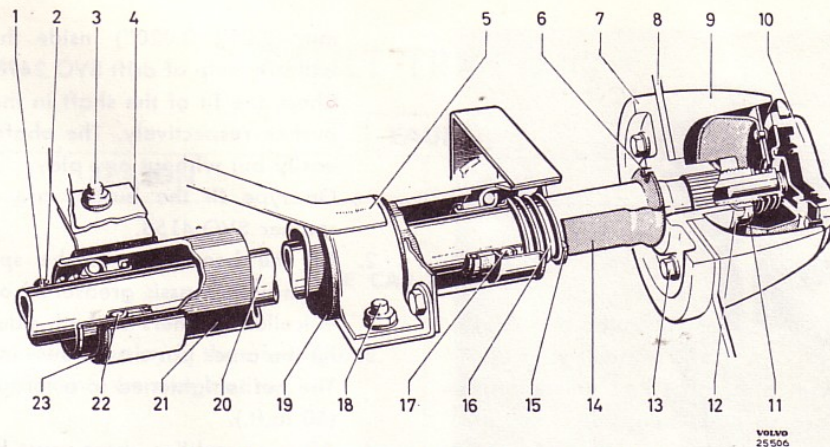

Fig. 43. Steering column mounting, P 1800.
- Unscrew the bolts (3, Fig. 43) for the lower attachment and the bolt (18) for the upper attachment. Pull up the jacket tube (21) slightly and remove the direction indicator switch and control lever, see Part 3. Then pull off the jacket tube from the steering column (20).
- Check that the rubber bushes (19 and 23) for the jacket tube attachment are undamaged and that the circlip (1) is located in its groove. Then fit the jacket tube and other parts in the reverse order to removing and as shown in Fig. 43. Tighten the steering wheel nut to a torque of 3.5–5.0 kgm (25–35 lb.ft.) and do not forget to lock it.